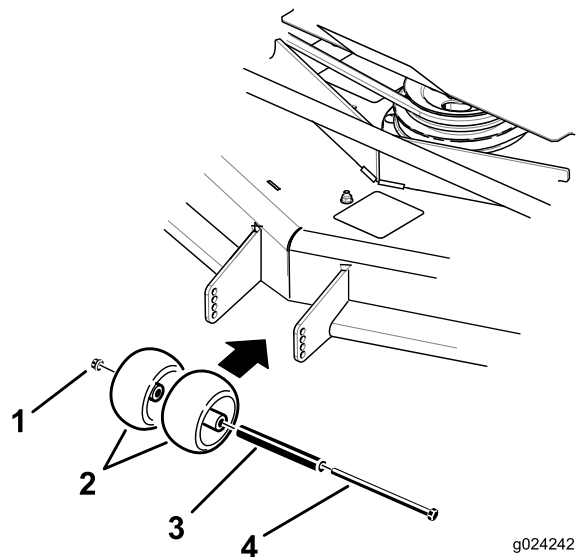
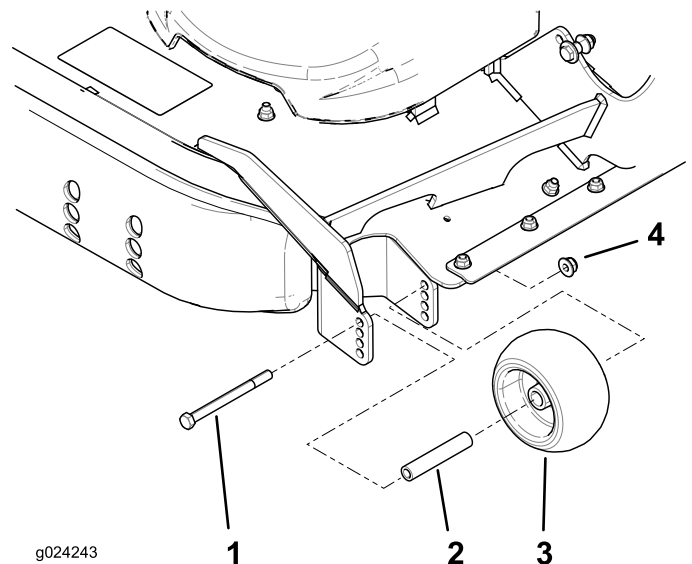

Figure 28
Figure 29
3. Adjust the anti-scalp rollers as shown in Figure 28 and Figure 29 to match the closest height-of-cut position.